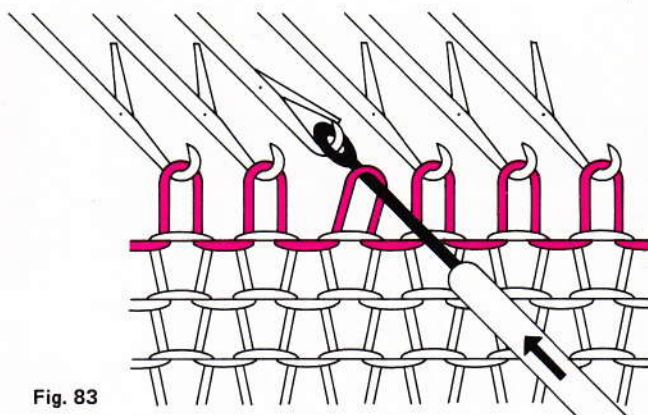

Fig. 83
- Push the needle back towards A position so that the stitch slips onto the transfer tool (fig. 83).